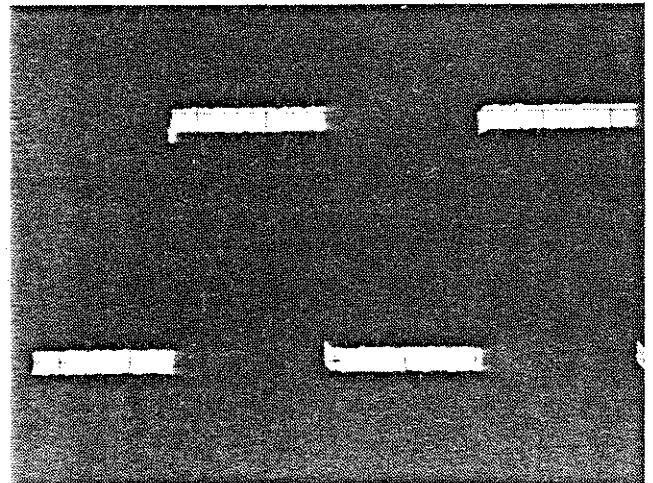

Fig. 4-35 Average mode mixed waveform
- f. CHECK that the Monitor display is a mixed waveform similar to Figure 4-35.